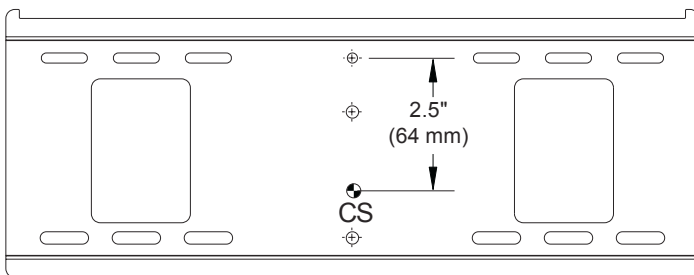

fig. 1.3
- 1 Wall plate (**AA**) can be mounted to two studs that are 16" apart. Use a stud finder to locate the edges of the studs. Use of an edge-to-edge stud finder is highly recommended. Based on their edges, draw a vertical line down each stud's center. Place wall plate on wall as a template. The top mounting slots should be 2.5" above the desired screen center as shown in figure 1.3. Level plate, and mark the center of the four mounting holes. Make sure that the mounting holes are on the stud centerlines. Drill four 5/32" (4 mm) dia. holes 2-1/2" (65 mm) deep. Make sure that the wall plate is level, secure it using four #14 x 2.5" wood screws (**CC**) as shown in figure 1.4.